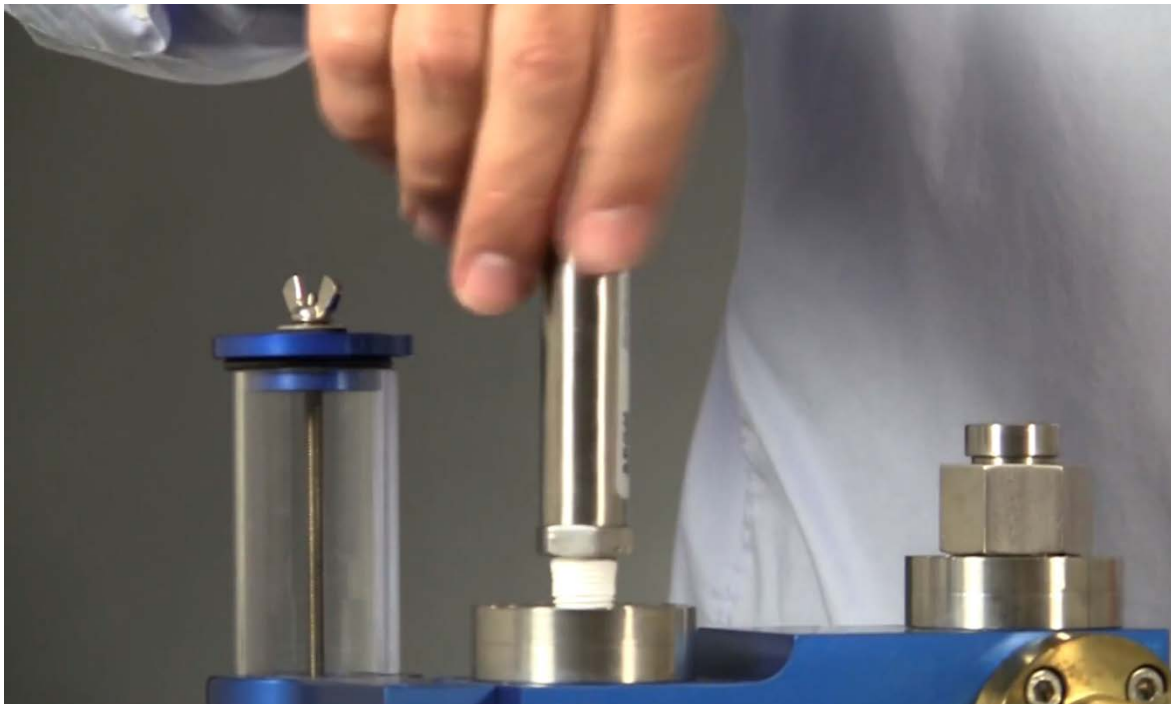

Figure A.9.12: Screwing in a pressure sensor into a thread by hand.
6. Screw the pressure gauge onto one end of the tee (Figure A.9.12). Do not screw it in all the way. Screw it in enough so that the pressure gauge does not fall off the tee. The pipe wrench pliers will be used later in order to secure the connection between the pressure gauge and the tee and to generate a sufficient seal.